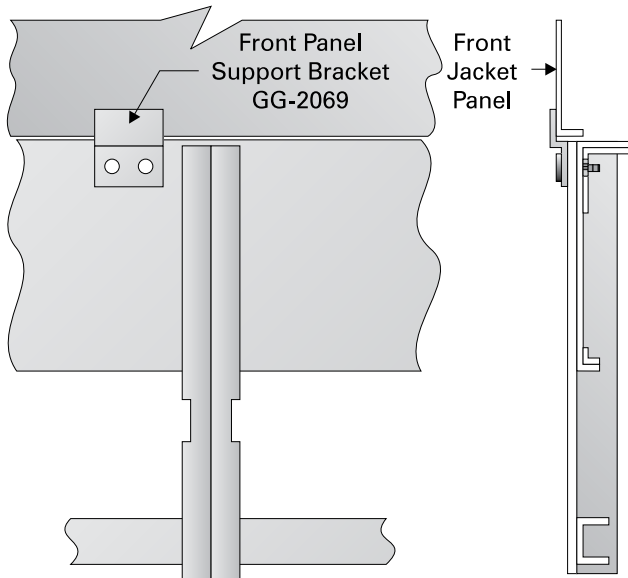

Figure 2.3: Support Bracket Installation
- a. Attach a Front Panel Support Bracket to each Front Panel as shown in Figure 2.3.